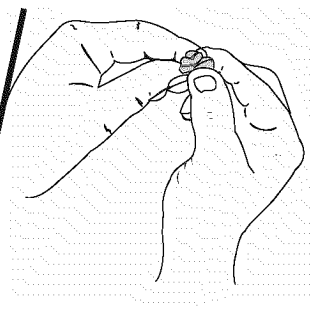

Fig. 31
5. Squeeze the filter to spread and remove excess oil (Fig. 31).